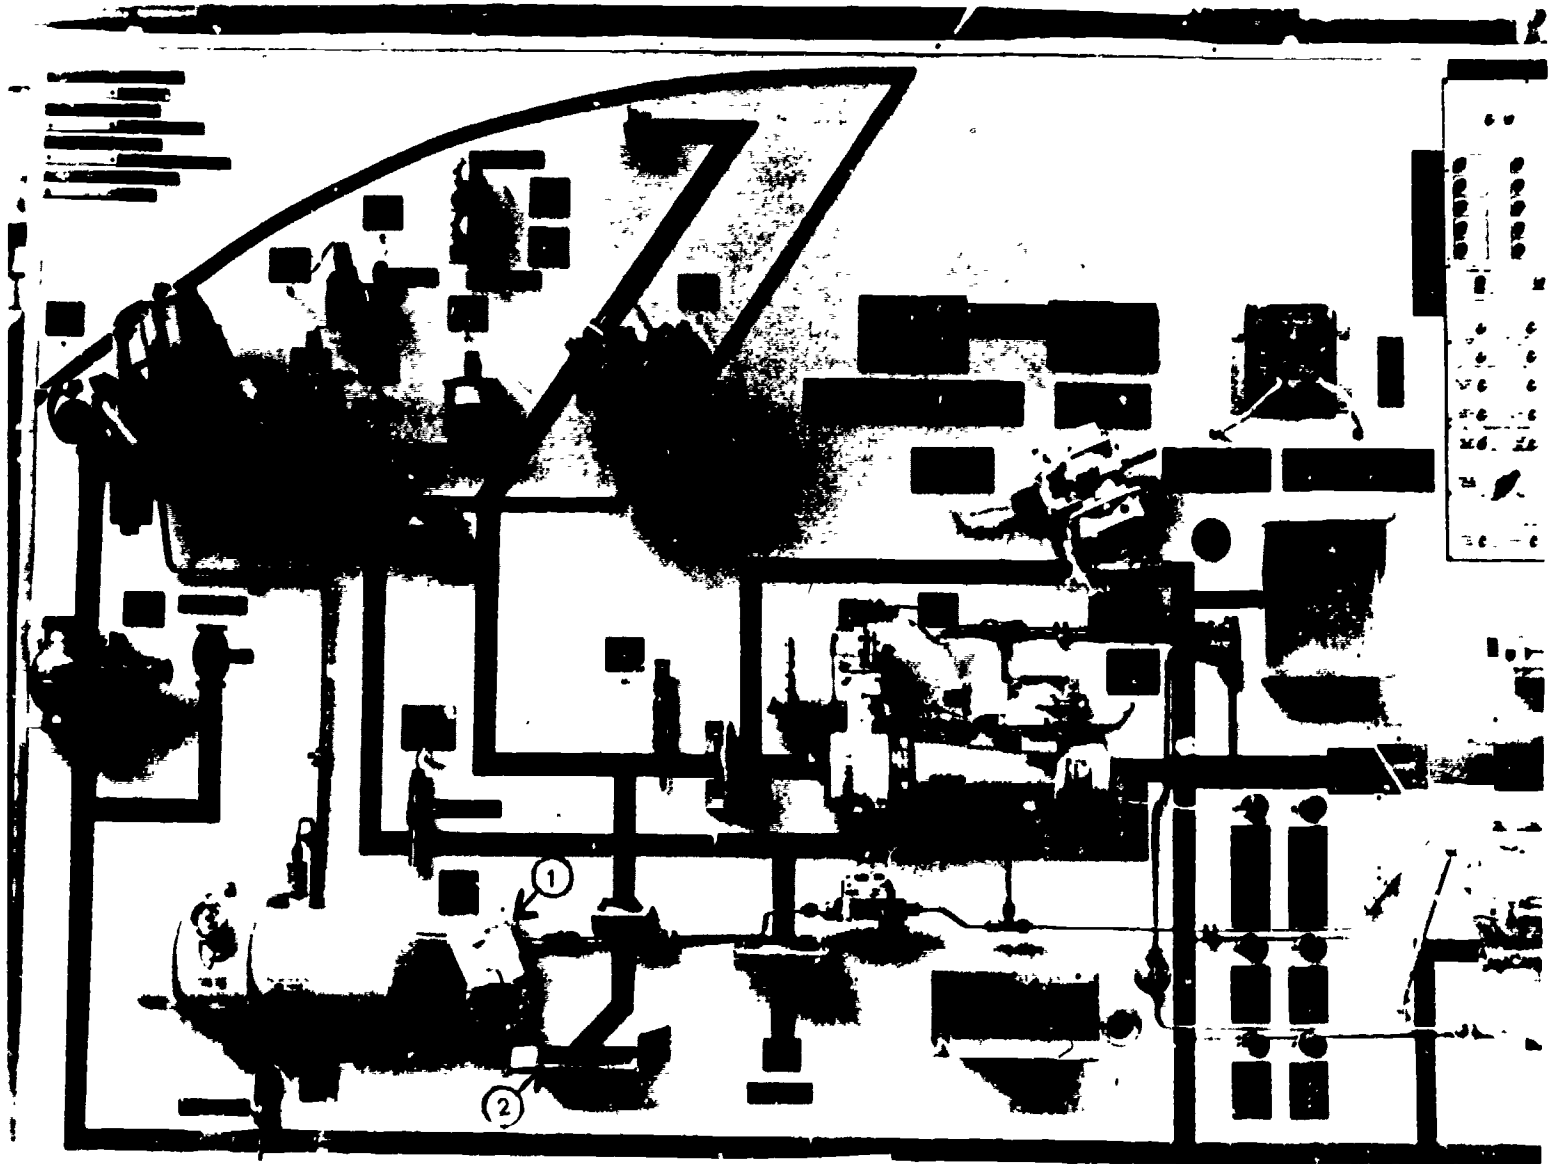

Figure 3
3. Using the trainer and figure 3, find each of the listed parts. Write the number that corresponds to the name of each part in the blank space.